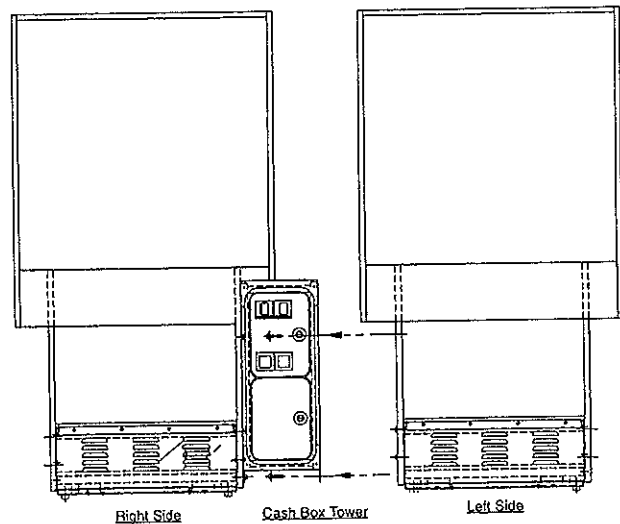

FIGURE 4: LEFT-SIDE CABINET INSTALLATION
2. Attach the Cash Box Tower to the inner panel of the Left-side Cabinet (see Figure 4) by sliding the lower two slotted holes in the Cash Box tower over the lower two bolts and split washers on the Left-side Cabinet. Watch out for the sloping lower edge of the Left-side Cabinet monitor. The fender (large) washer stays between the Left-side Cabinet and the Cash Box Tower. Be sure that the cables retract into either the cabinet or Cash Box Tower without kinking. Do not tighten the bolts yet.